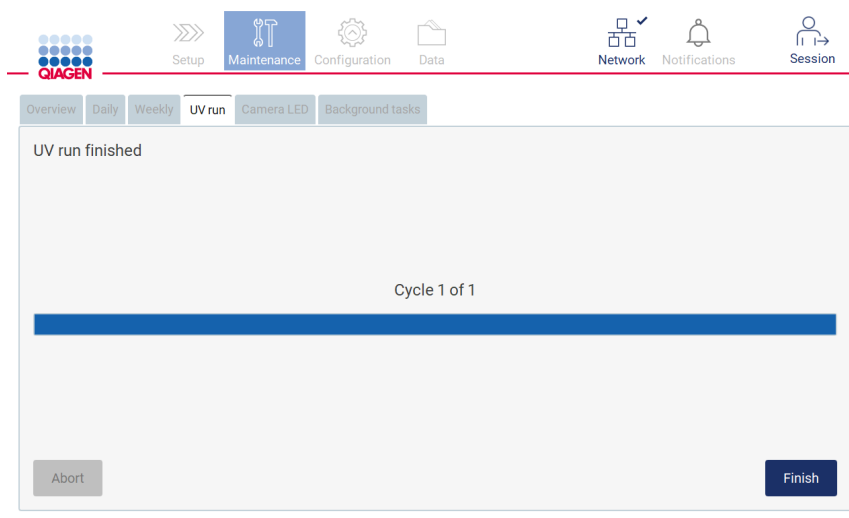

Figure 188. UV run finished screen.
7. A message (see the Figure 188 below) is displayed after execution of the UV run. Tap **Finish** to complete the UV run.